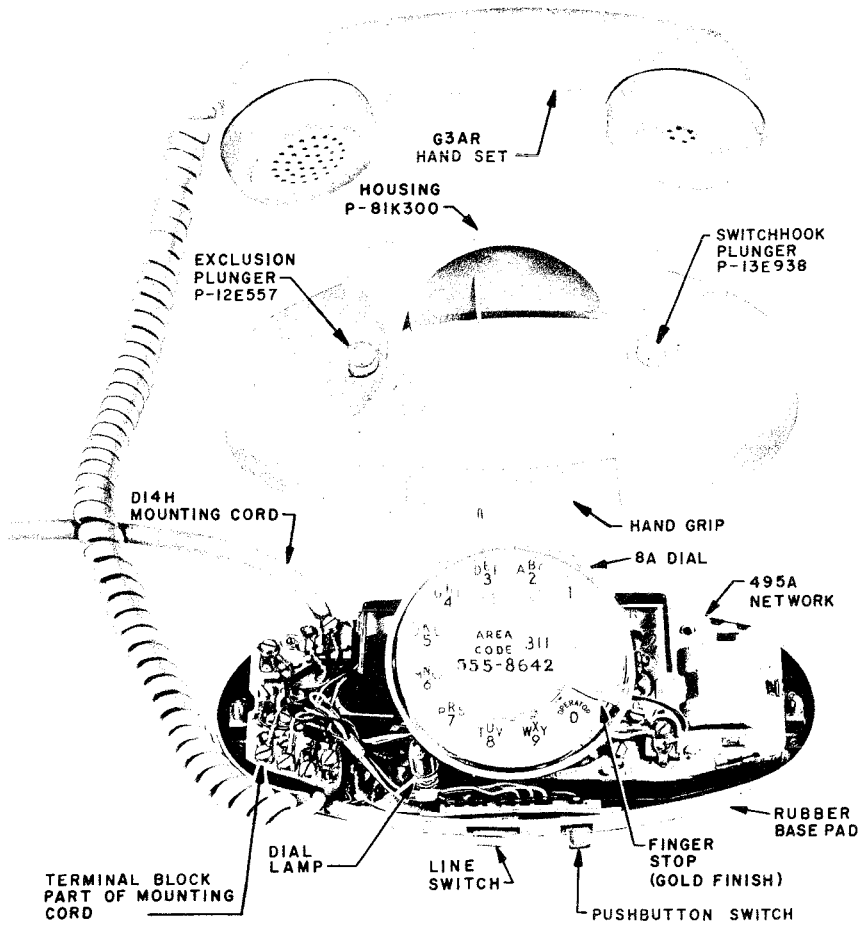

Fig. 6 - 711B Telephone Set with Housing Removed
- 2.16 The 711B telephone set (Fig. 6) is not equipped with an internal ringer. When a ringer is required, an E1-type external ringer may be used.